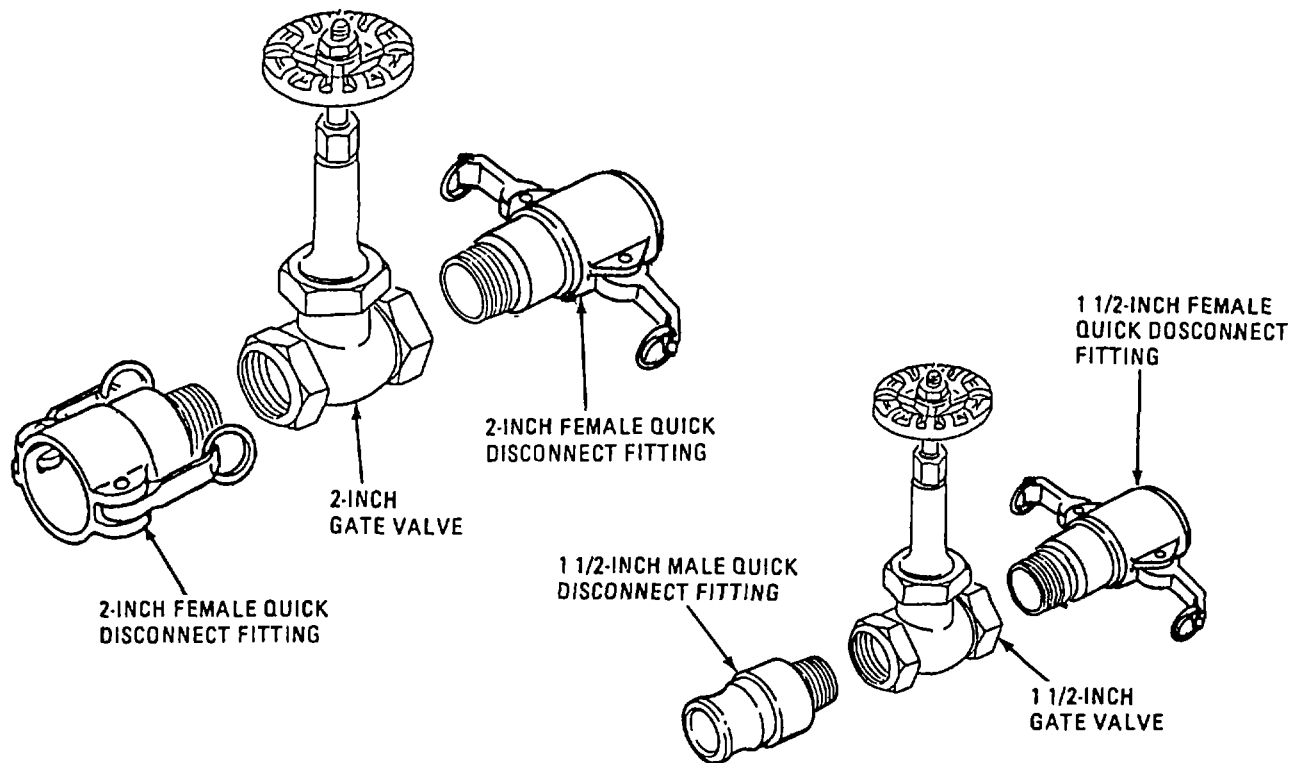

Figure 2-31. Gate Valve Quick Disconnect Fittings.
- j. Install 1 1/2-inch and 2-inch Gate Valve Quick Disconnect Fittings. Refer to figure 2-31.